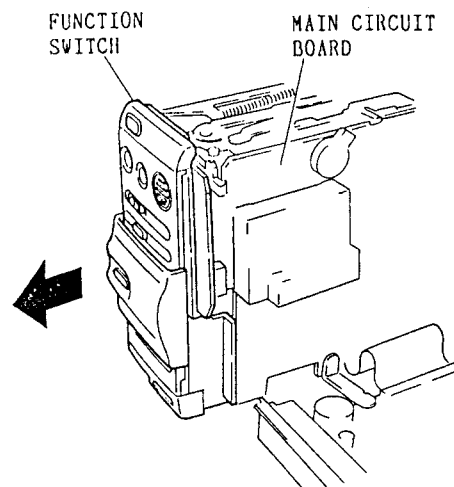

Fig. 2-15
1. Remove the function switch in the direction of the arrow. (See Fig. 2-15)